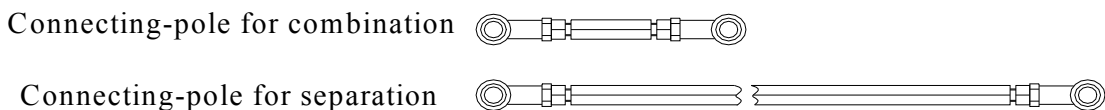

Fig 7.7.2
d. In separation position, the connecting- pole must be replaced the longer one. Refer to Fig. 7.7.2 (The distance between the two fabrics should be over 12", from the middle of needle bed is each 6" to left and right side.)